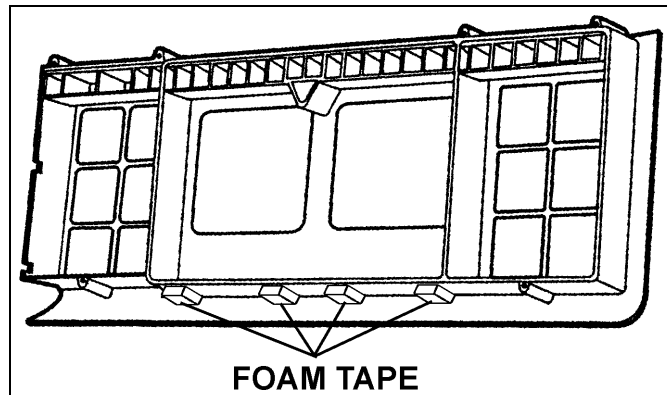

FIGURE 4: FOAM TAPE INSTALLATION
- Cut the foam tape (Prévost #506007) in 4 parts and affix on the new cluster housing (refer to figure 4).